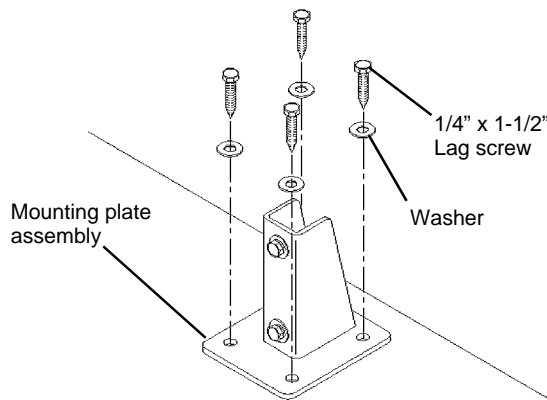

Figure 3
1. Position the Mounting Plate assembly in the desired location on the workbench and mark the location of the four mounting holes. See **Figure 3**.
2. Drill four .185" dia. thru holes and fasten the Mounting Plate assembly to the top using the 1/4" x 1-1/2" Lag screws and washers (provided). See **Figure 3**. If the top is less than 1.18" thick, use thru bolts, nuts and washers (not provided).